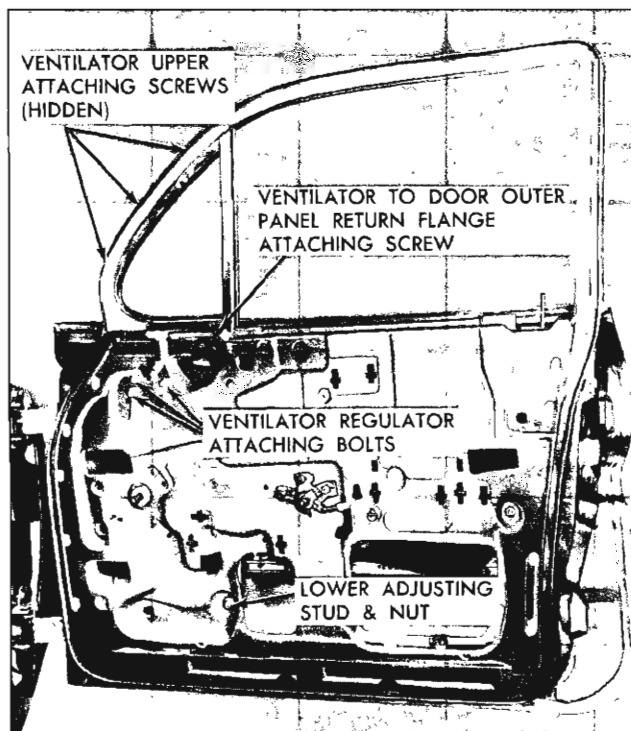

Fig. 31—Front Door Ventilator Assembly Attachments
5. Remove ventilator upper attaching screws along window frame (fig. 31).
1. To correct a condition where glass is "cocked" in glass run channels, loosen inner panel cam attaching screws, adjust cam up or down as required and tighten screws (fig. 31).
2. To adjust lower portion of ventilator division channel for proper alignment with door window assembly, lower door window and loosen ventilator adjusting stud nut. Turn adjusting stud in or out or position lower end of channel fore or aft as required; then tighten adjusting stud nut (fig. 31).
3. To adjust lower portion of window glass run channel in or out for proper alignment with door window, raise door window. From inside door, loosen glass run channel lower attaching nut or screw, adjust channel as required and tighten nut or screw (fig. 31).
2. Remove ventilator division channel lower adjusting stud and nut (fig. 31).
4. Remove door window lower sash channel cam (fig. 31).
6. Remove inner panel cam and window regulator attaching bolts and carefully remove regulator assembly from door (fig. 31).